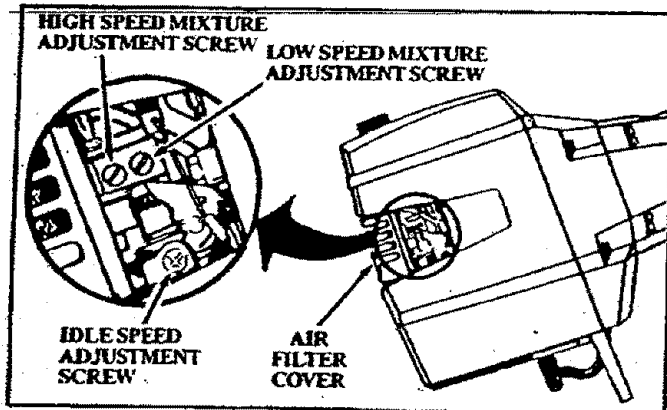

Figure 32
- Turn the Low Speed Mixture Screw and the High Speed Mixture Screw (Figure 32) clockwise until they stop. *Do not turn the screws until they are tight, as damage to the needle seats can occur.*
- 2.) Adjust Idle Speed Screw (Figure 32) until the engine continues to run without stalling and without the trimmer head moving.
- b. If the engine does not accelerate smoothly, turn the Low Speed Mixture Screw (Figure 32) counterclockwise a small amount (no more than the width of the slot in the adjusting screw).
- 2.) Turn the Low Speed Mixture Screw (Figure 32) slowly clockwise until the speed starts to drop. Note this position.
- 3.) Turn High Speed Mixture Screw (Figure 32) very slowly clockwise until engine speed is reduced.